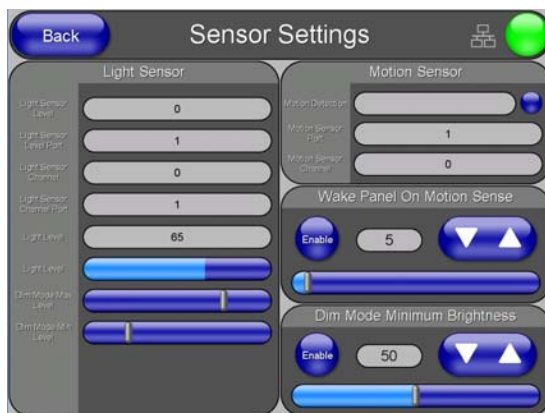

FIG. 118 Sensor Settings page
The *Sensor Settings* page (FIG. 118) allows you to adjust the Light and Motion Sensor parameters on a Modero touch panel.
- Open the *Sensor Settings* page (FIG. 118 on page 120) from the *Protected Setup* menu sections.